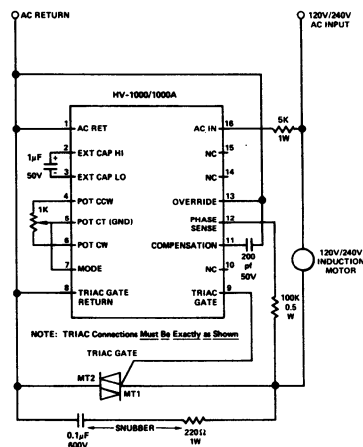

FIGURE 6
the load anticipator trip point, the HV-1000 will discontinuously switch (trip) to full power. The anticipator trip point is increased by the absolute value of an external potentiometer, 10k ohms increasing it about 6 degrees. A circuit utilizing an external potentiometer is shown in Figure 6.
- (d) This full load power factor is typical of a wide variety of U.S., single phase, 60Hz, capacitor start induction motors of power levels between ¼ HP and 1 HP. Many other motors, both larger and smaller and operating at 50Hz, can also be driven satisfactorily by this power factor setting. However, there are some motors for which this full load power factor setting is not satisfactory, being either too high or too low. To suit these motors, a potentiometer must be added as shown in Figure 6. The potentiometer should then be adjusted so that full voltage is applied to the motor ($\theta_c = \theta_t$) when the motor is fully loaded. An oscilloscope and a dynamometer are required to do this set-up precisely, although other loading means can be substituted for a dynamometer, if none is available. The absolute value of the potentiometer determines the range of adjustment, a 5k potentiometer giving a much larger range of adjustment than a 1k potentiometer.
When it is required to adjust the full load, power factor setting, a potentiometer should be added as shown in Figure 6. The larger the absolute value of the potentiometer, the greater the range of adjustment. 1k ohms is recommended as a starting